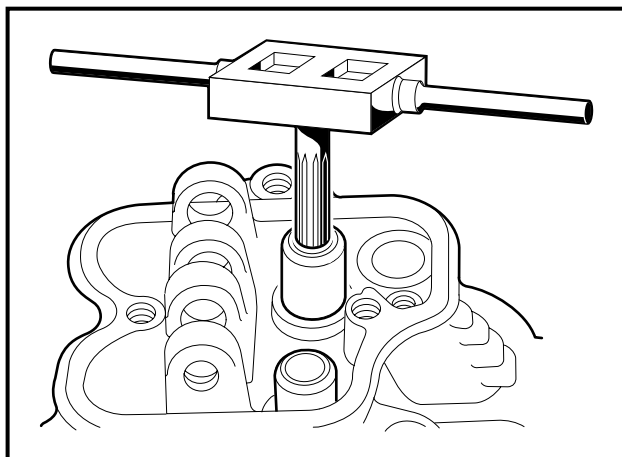

Figure 13-22 Ream Valve Guide
5. Ream the guide with a stanisol or kerosene lubricant and a valve guide reamer (CCI P/N 101641201). The valve guide inside diameter should be 0.2756 - 0.2762 inch (7.000 - 7.015 mm) (**Figure 13-22, Page 13-14**).